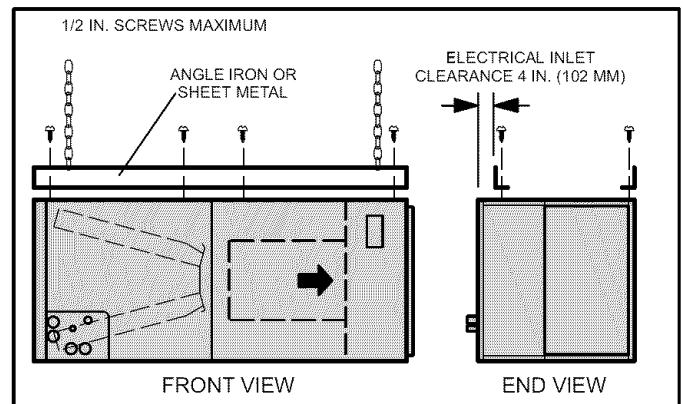

Figure 3. Suspending Horizontal Unit
- Step 4. If suspending the unit, it must be supported along the entire length of the cabinet. If using chain or strap, use a piece of angle iron or sheet metal attached to the unit (either above or below) so that the full length of the cabinet is supported. Use securing screws no longer than 1/2 inch to avoid damage to coil or filter as illustrated in figure 3. Connect return and supply air plenums as required using sheet metal screws.
- Step 14. If suspending the unit, it must be supported along the entire length of the cabinet. If using chain or strap, use a piece of angle iron or sheet metal attached to the unit (either above or below) so that the full length of the cabinet is supported. Use securing screws no longer than 1/2 inch to avoid damage to coil or filter as illustrated in figure 3 on page 5. Connect return and supply air plenums as required using sheet metal screws.